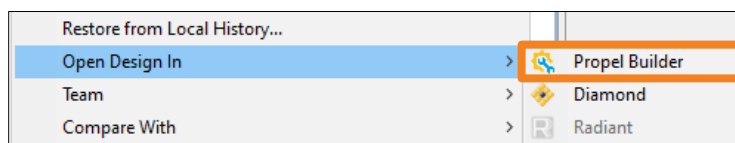

Figure 3.15. Project Explorer Pop-up Menu
- Right-click the SoC project from **Project Explorer**. Choose **Open Design In** >  **Propel Builder** from the pop-up menu (Figure 3.15).